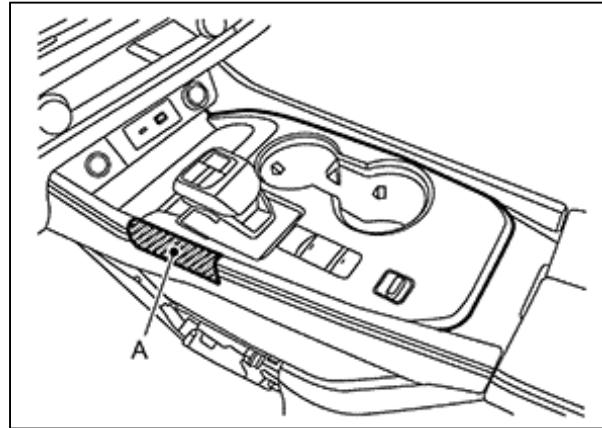

Figure 30
23. Apply protective tape (A) in the location shown in Figure 30, to protect it from damage.